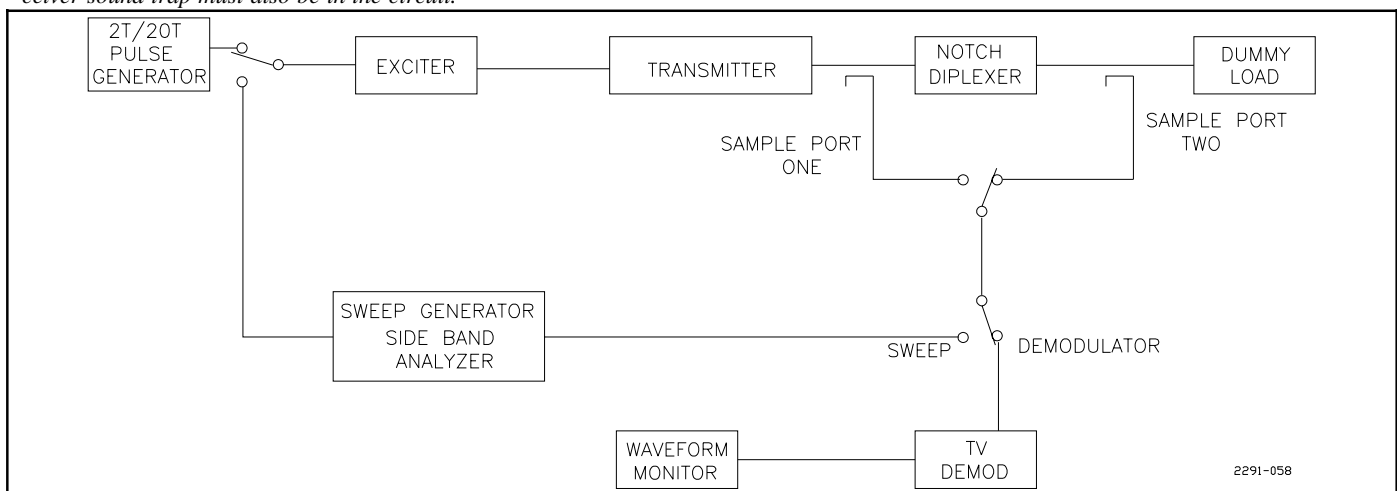

Figure 5-6. Test Equipment for Group Delay and Notch Diplexer Equalizer Adjustments
- a. Set up test equipment per Figure 5-6.